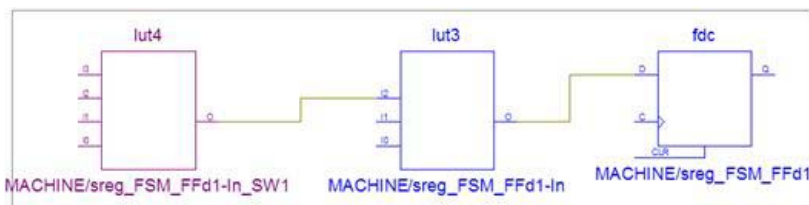

Figure 4-9: Example Schematic
1. Select the **I2** pin of the **lut3** primitive, and select **Show Next Drive (Output) Pin** from the context menu to see its driver. The following schematic appears, as shown in Figure 4-9.